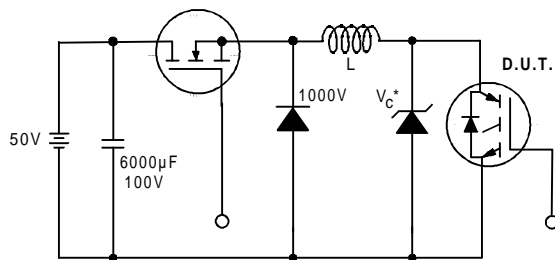

Figure 19. Clamped Inductive Load Test Circuit
- ② $V_{CC}=80\%(V_{CES})$, $V_{GE}=20V$, $L=10\mu H$, $R_G=5.0\Omega$ (figure 19)
- ③ Pulse width $\leq 80\mu s$; duty factor $\leq 0.1\%$
- ④ Pulse width $5.0\mu s$, single shot